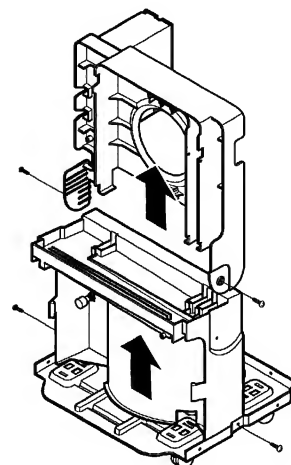

Figure 25
5. Unfasten 2 screws that secure the drain pan to base pan. (See Figure 25)
6. Pull the drain pan backward then take it up from the base. (See Figure 25)